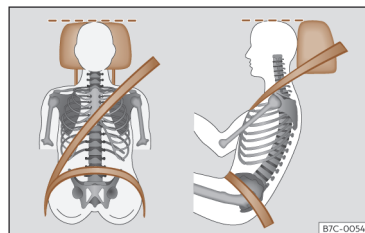

Fig. 15 Correct belt web and headrest positions
- Adjust the head restraint so that its upper edge is, as far as possible, at the same level as the top of your head, as close to eye level as possible¹⁾ >>> page 116. Keep the back of your neck as close as possible to the headrest >>> Fig. 15.
- Adjust the seat lengthwise so that you can fully step on the pedals with your knees slightly bent and there is a distance between the knee area and the instrument panel of at least 10 cm (4 inches) >>> Fig. 15.